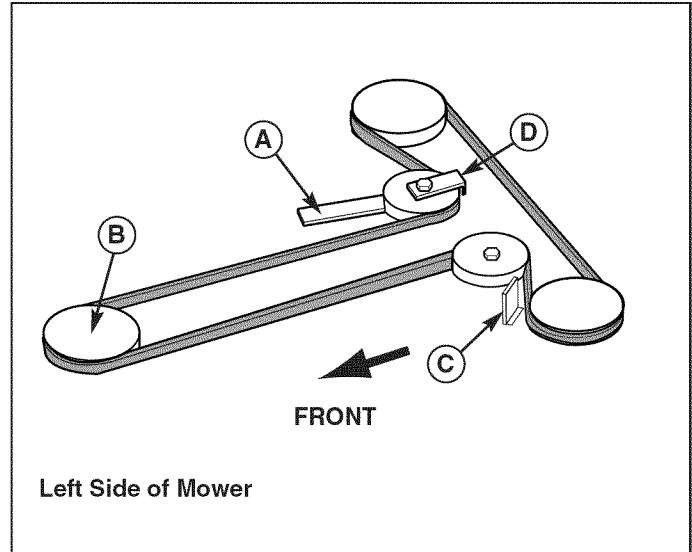

Figure 41. Typical Mower Belt Routing Two Blade Decks
3. Push the idler arm (A, Figure 41 or 42) to relieve belt tension. Drop the belt from the PTO (electric clutch) pulley.